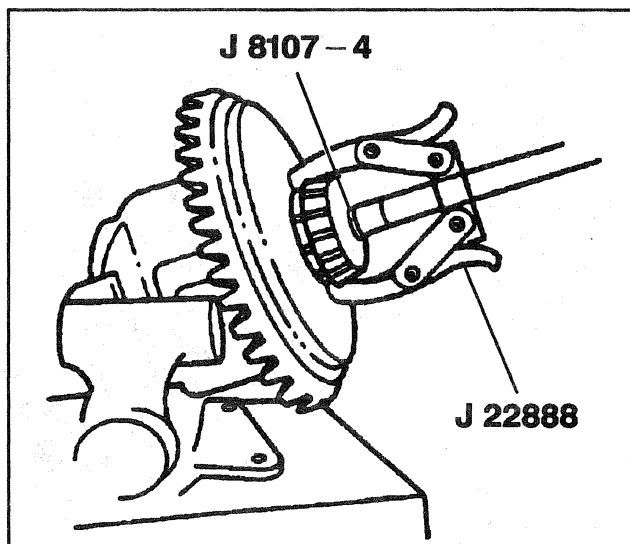

Figure 4—Removing Differential Side Bearing
13. Differential side bearings (8) using J 8107-4 and J 22888-20 (Figure 4).
14. Ring gear bolts (23).